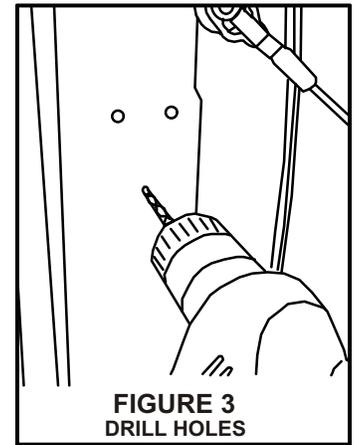

FIGURE 3
- STEP 4. Use 9/64" drill to make holes to bolt the Square Universal Mounting Bracket. (Drill through the bedliner if the truck has a bedliner.) (See Figure 3)